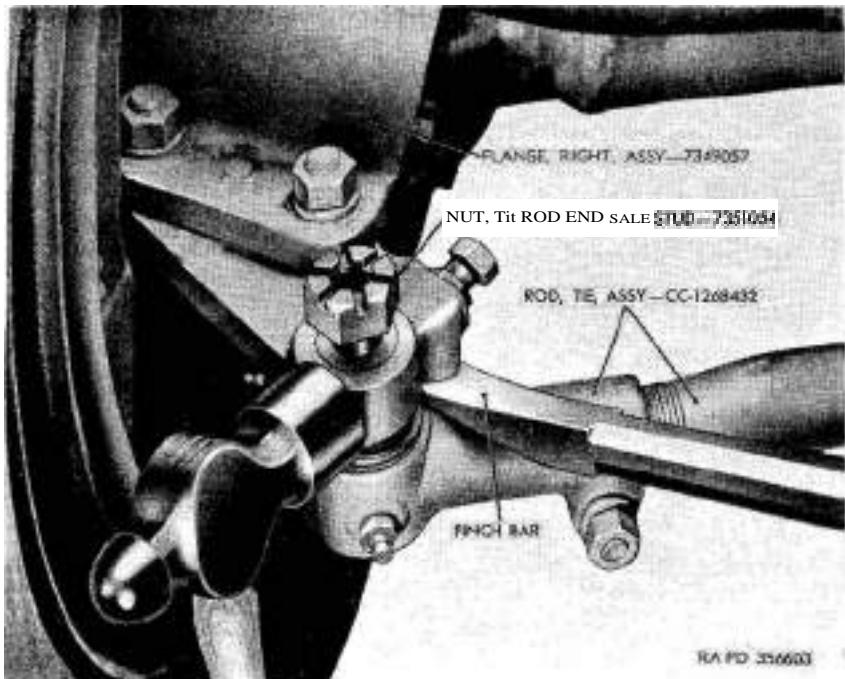

Figure 51. Removing tie rod end from flange assembly.
- c. *Remove Tie Rod Assembly.* Remove cotter pins and loosen tie rod end ball stud nuts, but do not remove nuts. Insert pinch bar between tie rod and flange assembly. Apply pressure on pinch bar (*fig. 51*) and strike flange assembly with a hammer to loosen ball studs. Remove nuts, tie rod end dust covers, tie rod end dust cover washers, tie rod end dust cover springs, and tie rod assembly.